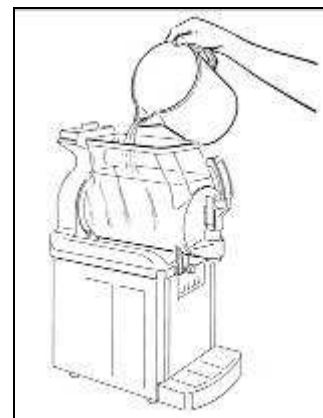

Fig. 12
- Pour lukewarm water into the bowl (fig.12) and, after re-positioning the main cover, make the scraper auger rotating for some minutes (all LED switched off).